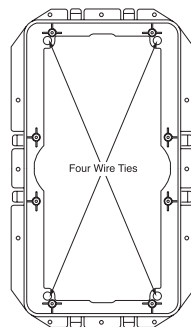

Figure 11. The speaker wire is looped and hung on two nails attached to the joists, securing it for future use. Be sure to note the location on house plans.
2. *Ask the general contractor to inform the drywall installers that the speaker wire loops are concealed for future installations, as shown in Figure 11.*